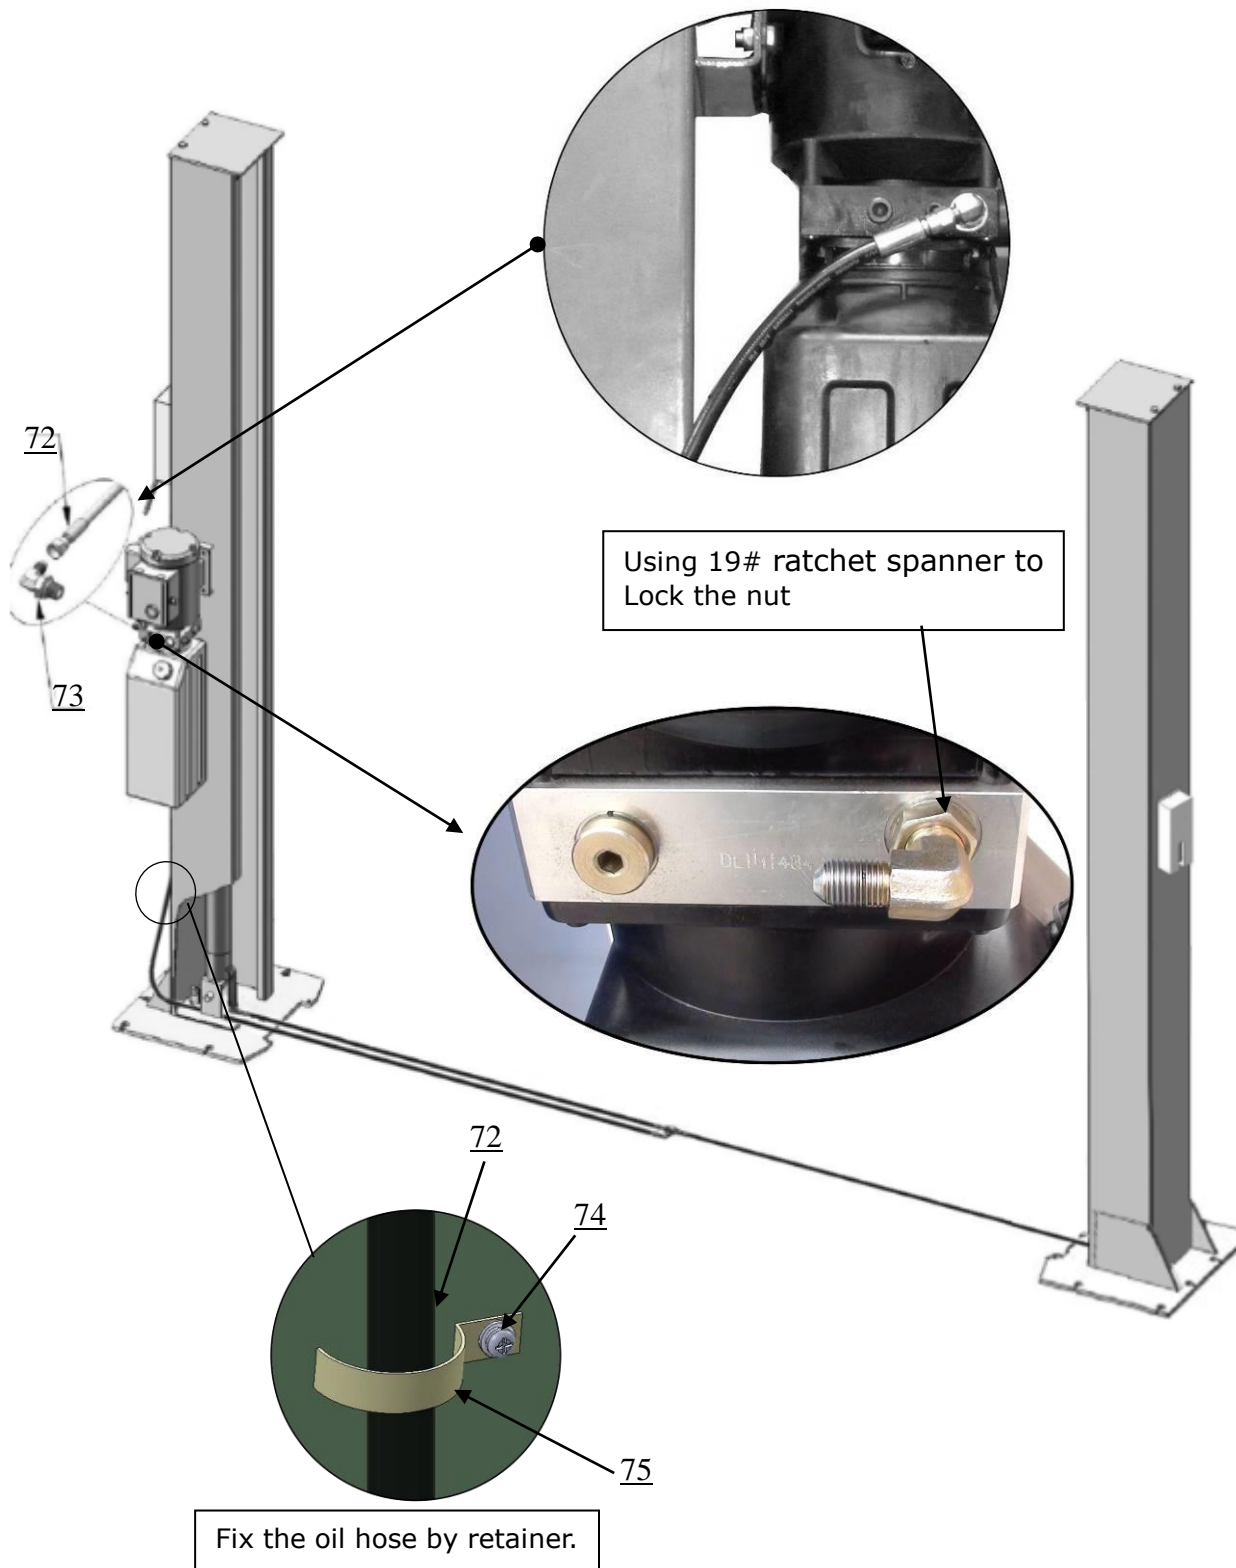

Fig. 19
J. Install hydraulic power unit and oil hose assy. (See Fig. 19).